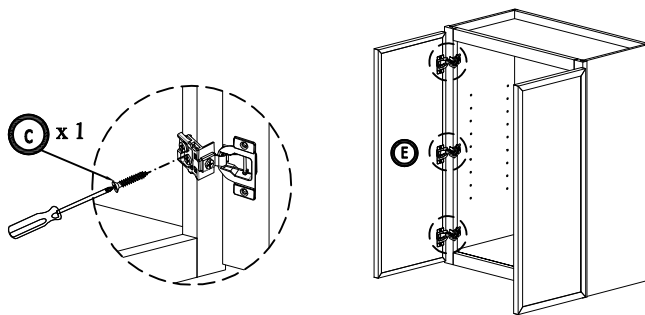

Figure 7
7. Assemble door with hinges to left and right of cabinet frame by 6 screw 4/5" (Figure 7)